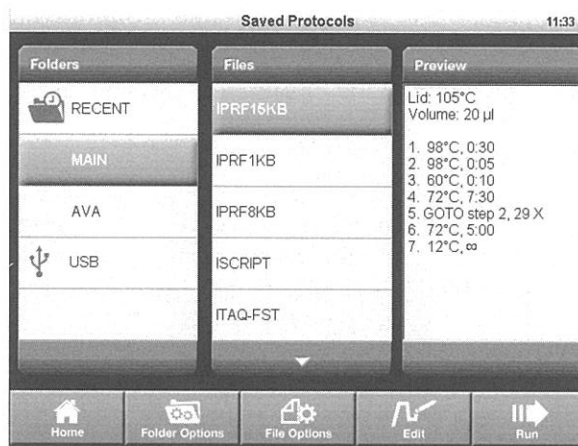

Figure 5. Select a protocol and touch Edit.
2. Alternatively, to edit an existing protocol, touch **Saved Protocols** from the home screen, select the protocol to be modified and touch **Edit** (Figure 5).